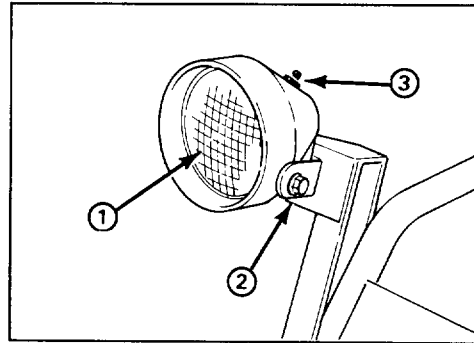

Figure 22
1. Rotate headlight to desired position. If light is difficult to move, loosen locknut (Fig. 22).
3. To turn on headlight, push button switch on top of light (Fig. 22).